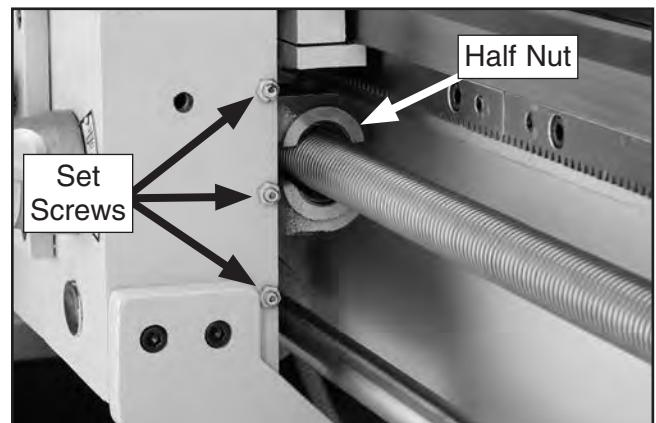

Figure 123. Half-nut gib set screws.
3. Loosen hex nuts on set screws shown in **Figure 123**.